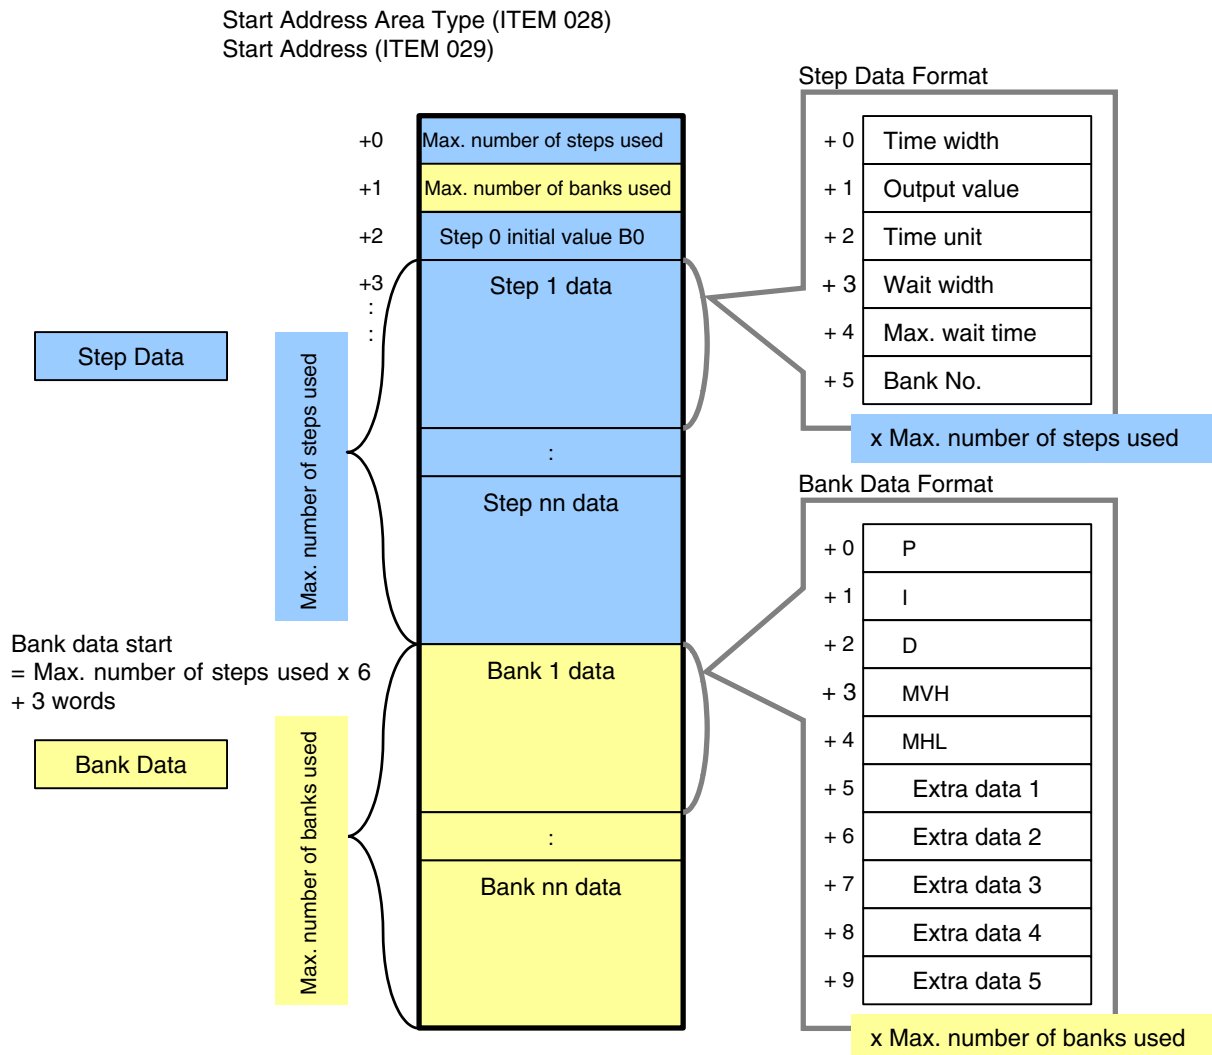

Fig. 1 Program Pattern Data Format
- At this time, the program pattern data must be written in I/O memory in the specified format. (Refer to Fig. 1 Program Pattern Data Format.)